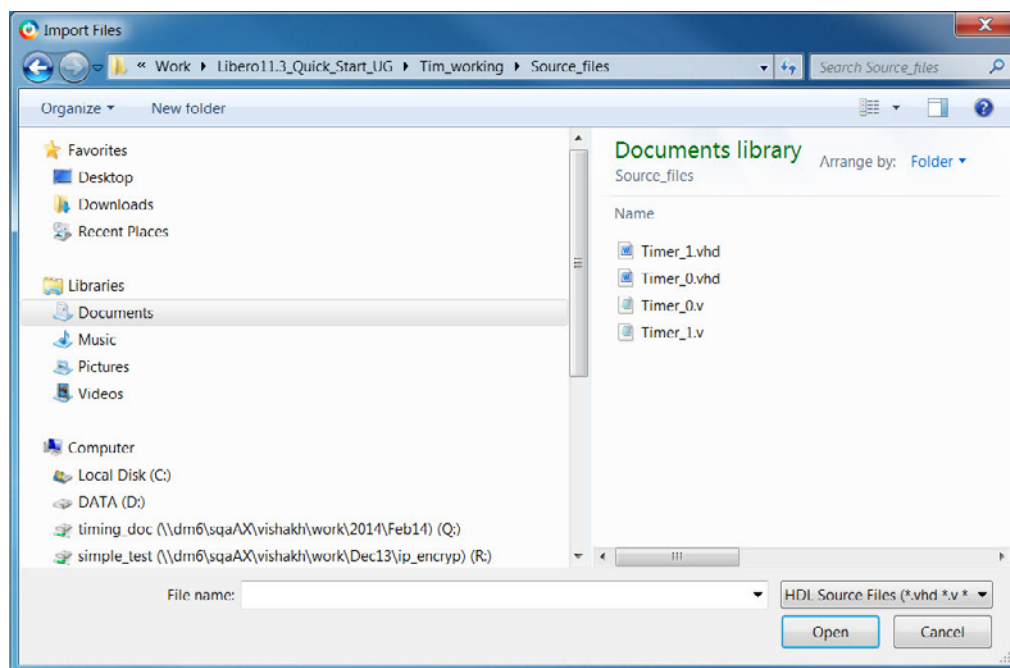

Figure 3-2 • Timer_0 and Timer_1 HDL Source Files
2. Navigate to the folder location of the Verilog or VHDL timer files where you have extracted the source files for this tutorial. Select the Verilog files (Timer_0.v and Timer_1.v) or the VHDL files (Timer_0.vhd and Timer_1.vhd) to match your Preferred HDL Type in your Project Settings. Click **Open**. Timer_0 and Timer_1 appear in the Design Hierarchy after the Import (Figure 3-2).